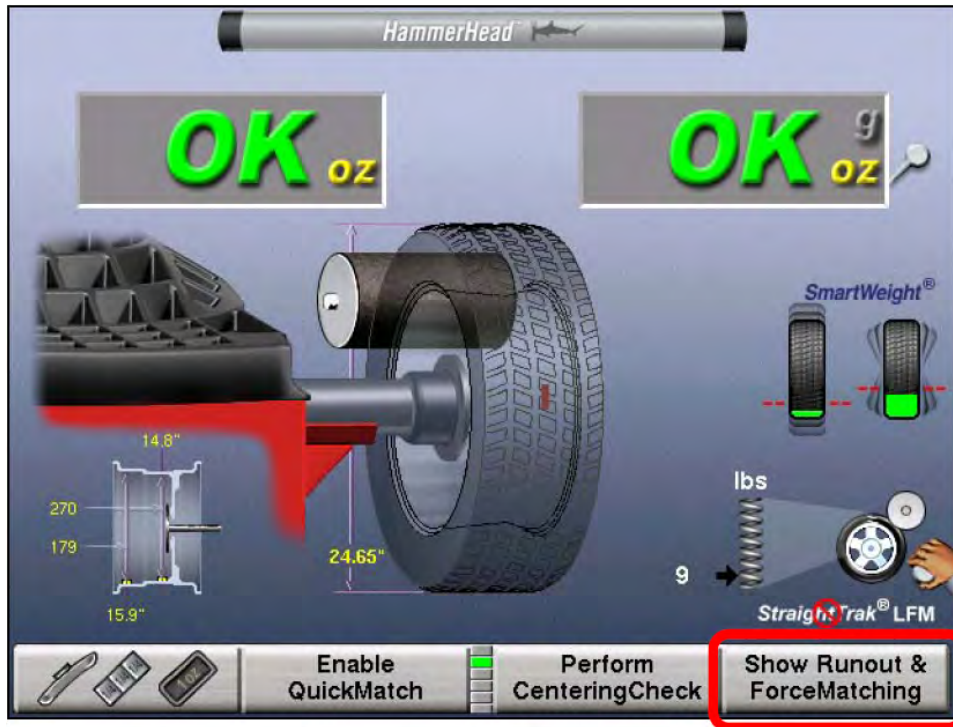

Figure 1
a. Using the menu shift key, navigate to and select "Show Runout & ForceMatching" (see Figure 1).